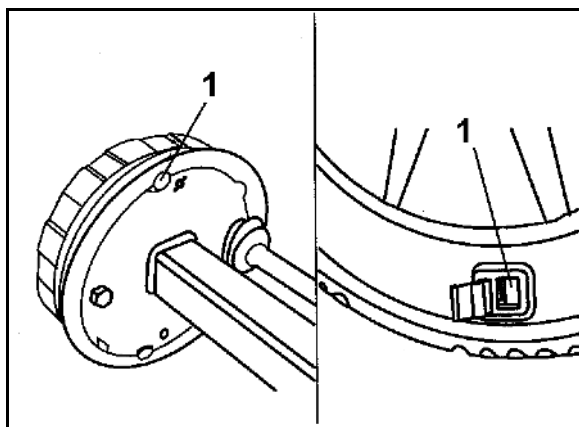

Fig. 78
Move the linkage adjuster by hand in the pressure direction (Fig. 78). If the free travel of the long-stroke diaphragm cylinder pressure rod is max. 35 mm, the wheel brake must be readjusted.
2. Slacken the adjusting screw (arrow) with a ring spanner (Fig. 78) approx. $\frac{3}{4}$ of a turn anti-clockwise. There must be free travel of at least 50 mm for a lever length of 150 mm.